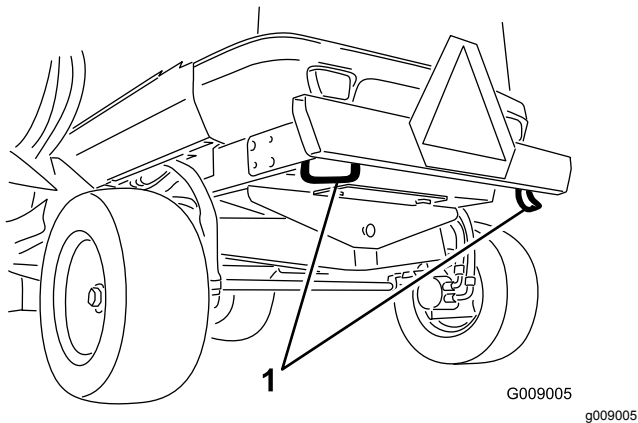

**Figure 69**
**Front of the machine**—under the front of the operator's platform (Figure 69)